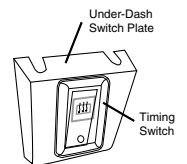

Figure 4
1. Mount the dash switch plate (Fig. 4) in a convenient location with easy access to defroster on/off switch using the self tapping screws
2. Run W-6 (Ribbon Cable) through the back of the switch plate and insert the four prong connector into the timing switch, peel away the release film and adhere to plate with the red LED pointing down (Fig. 4).